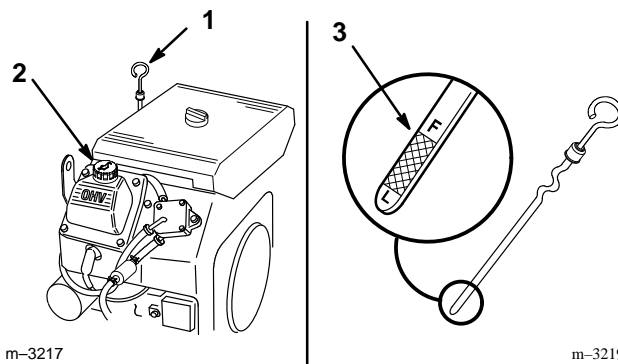

Figure 15
2. Clean around the oil dipstick (Fig. 15) so dirt cannot fall into the filler hole and damage the engine.
3. Unscrew the oil dipstick and wipe the metal end clean (Fig. 15).
4. Slide the oil dipstick fully into the filler tube, do not thread onto tube (Fig. 15). Pull the dipstick out and look at the metal end. If oil level is low, slowly pour only enough oil into the filler tube to raise the level to the “FULL” mark.
5. Slowly pour approximately 80% of the specified amount of oil specified, page 22, into the filler tube (Fig. 15). Now check the oil level; refer to Checking Oil Level, page 22. Slowly add additional oil to bring to "FULL" mark on dipstick.